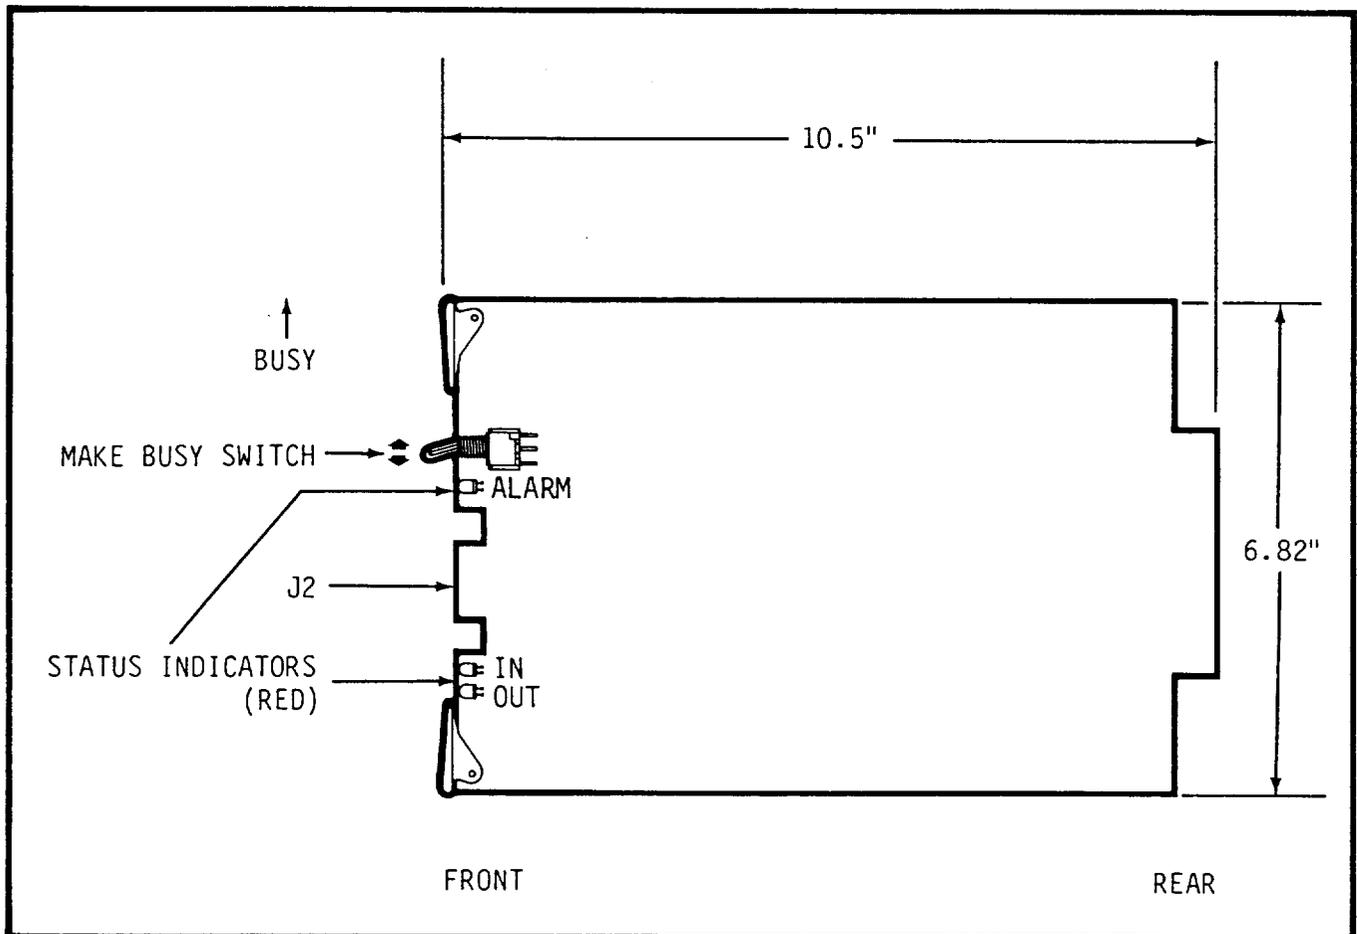

Figure 4 M-911 Circuit Card
3.02 The M-911 circuit card is 6.84 inches (17.4 cm) high by 10.52 inches (26.7 cm) deep. As shown in Figure 4, the M-911 has three red LED status indicators. The lower indicator, labeled OUT, lights while the adapter holds up the repeater during line split. The center indicator, labeled IN, lights while the adapter is detecting loop current flow through the trunk. The upper indicator, labeled ALARM, lights and remains lighted if loss of regulator voltage or microprocessor self-test failure occurs on the circuit card. The BUSY switch applies ground to the linefinder Sleeve lead when the handle is moved up. The connector contacts labeled J2 on the front edge of the card are for the TELTONE Test Adapter which allows connecting a butt-in test phone to the card.